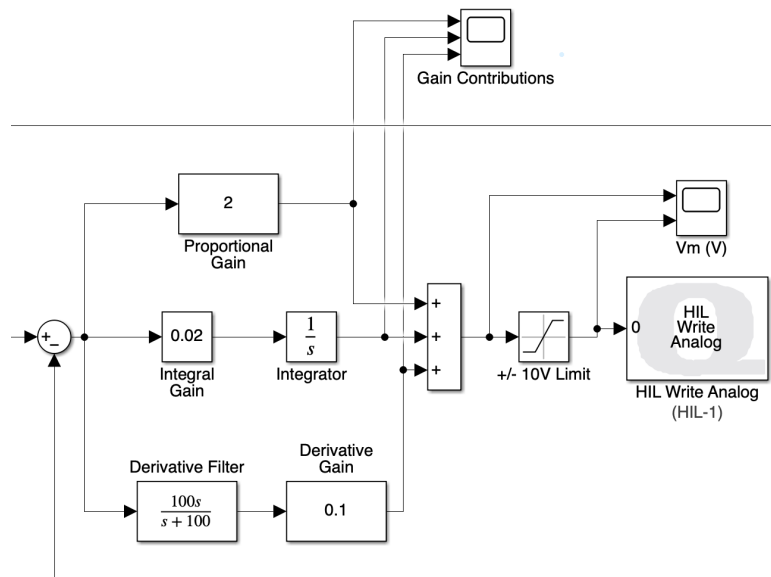

Figure 6: Scope named 'Gain Contributions' in Simulink model.
9. We have the **Gain Contributions** scope in the system, as shown in Figure 6. This will provide us the possibility to investigate the contribution of each branch separately. (The values in the Figure 6 are arbitrary; you should use the values of Section 4.2.4 and the Integral gain that you tuned.)